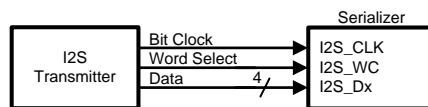
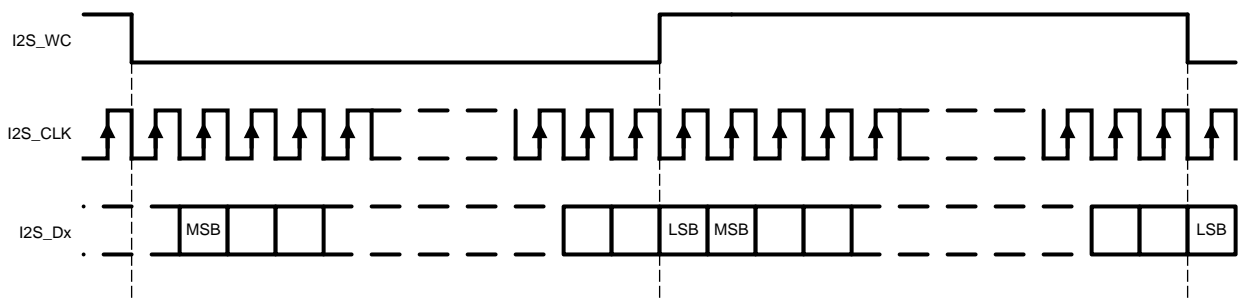

Figure 11. I2S Connection Diagram
Figure 12. I2S Frame Timing Diagram
The DS90UB929-Q1 serializer features six I2S input pins that, when paired with a compatible deserializer, supports 7.1 High-Definition (HD) Surround Sound audio applications. The bit clock (I2S_CLK) supports frequencies between 1MHz and the lesser of IN_CLK/2 or 13MHz. Four I2S data inputs transport two channels of I2S-formatted digital audio each, with each channel delineated by the word select (I2S_WC) input. Refer to Figure 11 and Figure 12 for I2S connection diagram and timing information.